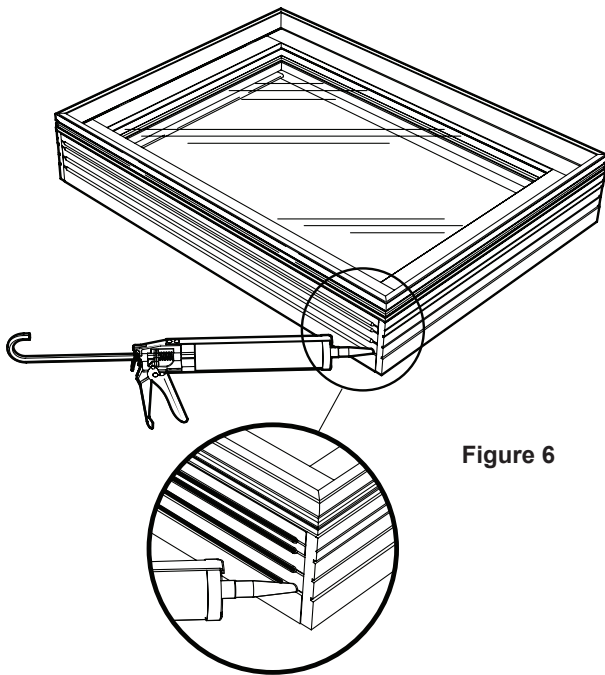

Figure 6
- On the unit that is to be mull to the unit with the attached reinforcement, apply a bead of silicone full length of the jamb into each groove as done in step 4. (Figure 6)